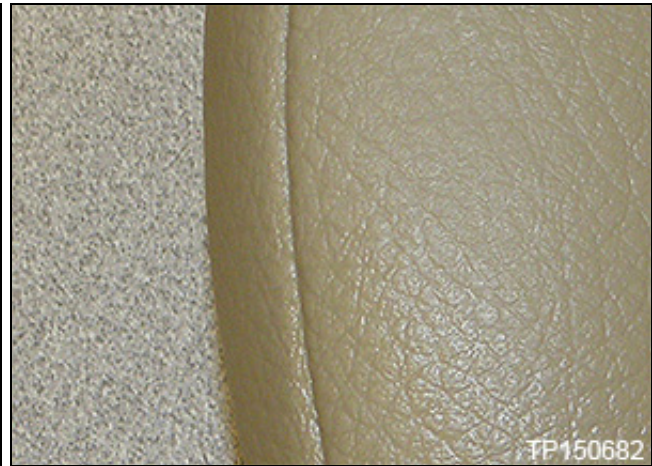

Figure 10
(2) Vinyl shift selector knob shown in Figure 10 with simulated seam.